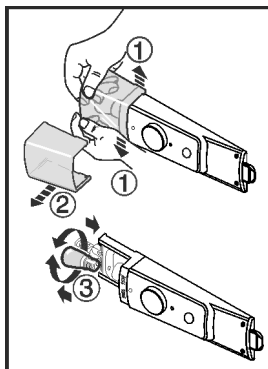

Fig. 10
- Push the lamp cover in and apart at the front Fig. 10 (1), and remove to the side Fig. 10 (2) as shown in the illustration.
- Replace the lamp. Fig. 10 (3)